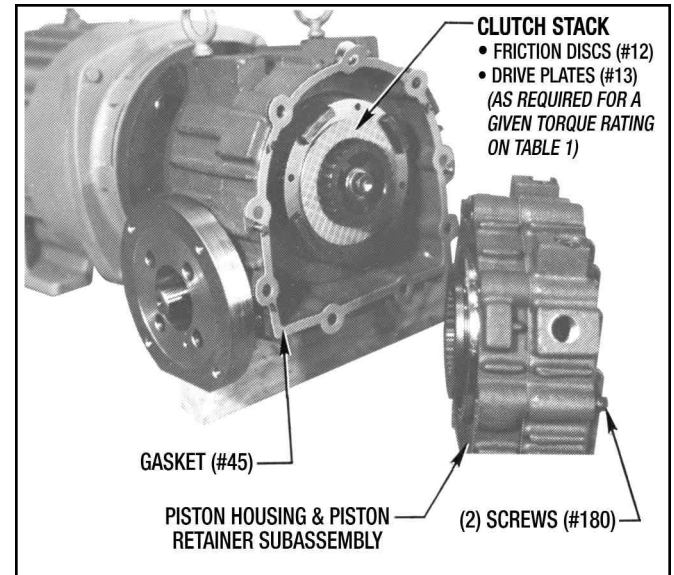

Figure 9.14 - Clutch Stack Assembly
6. Place Gasket (#45) between Piston Housing (#16) and Piston Retainer (#17). Bolt these two housings together using the two special Cap Screws (#180). (See Figure 9.14)
There will be (5) Drive Plates (#13) and (5) Friction Discs (#12) in the Clutch Stack. Install the Clutch Stack as described below. (See Figure 9.14)